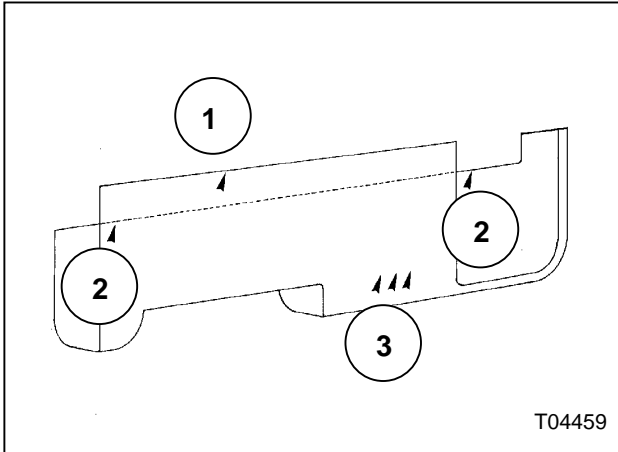

Figure 18: Rear bench ABS molding.
- 7) Using a long cross tip screwdriver undo and remove the retaining screw(s) on the inside of the molding through the opening between the two reading light bowls (1, Figure 18). Undo and remove the retaining screws at the back of the molding (2, Figure 18).
Through the service module opening in the parcel rack, undo the retaining screws at the front of the molding (3, Figure 18). Withdraw the molding by pulling it down.